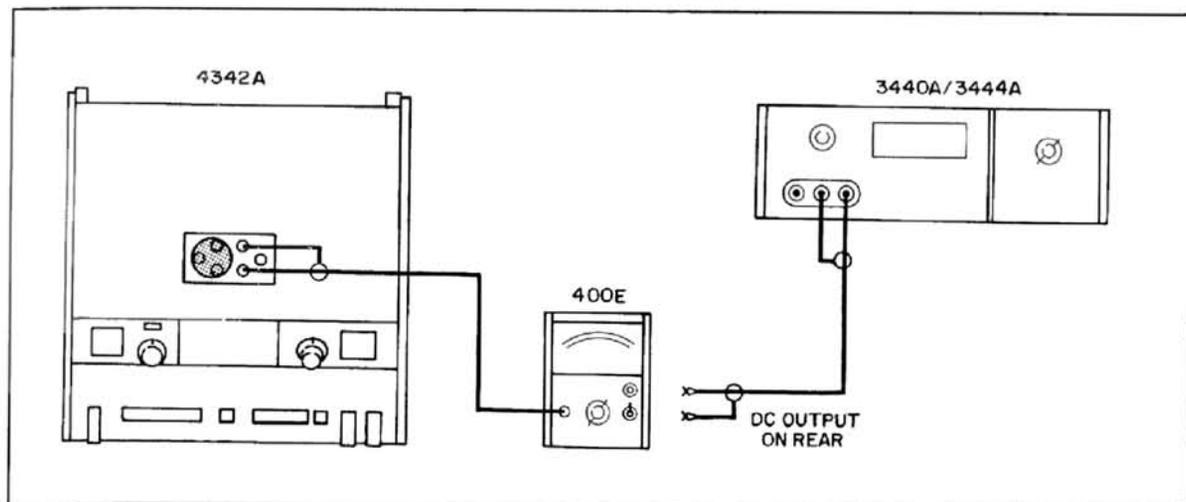

Figure 5-2.  $\Delta$ Q Range Check
- b. Connect the AC Voltmeter and the Digital Voltmeter to HI and GND terminals, and connect the Reference Inductor to HI and LO terminals as shown in Figure 5-2. Set the AC Voltmeter range to 1V.